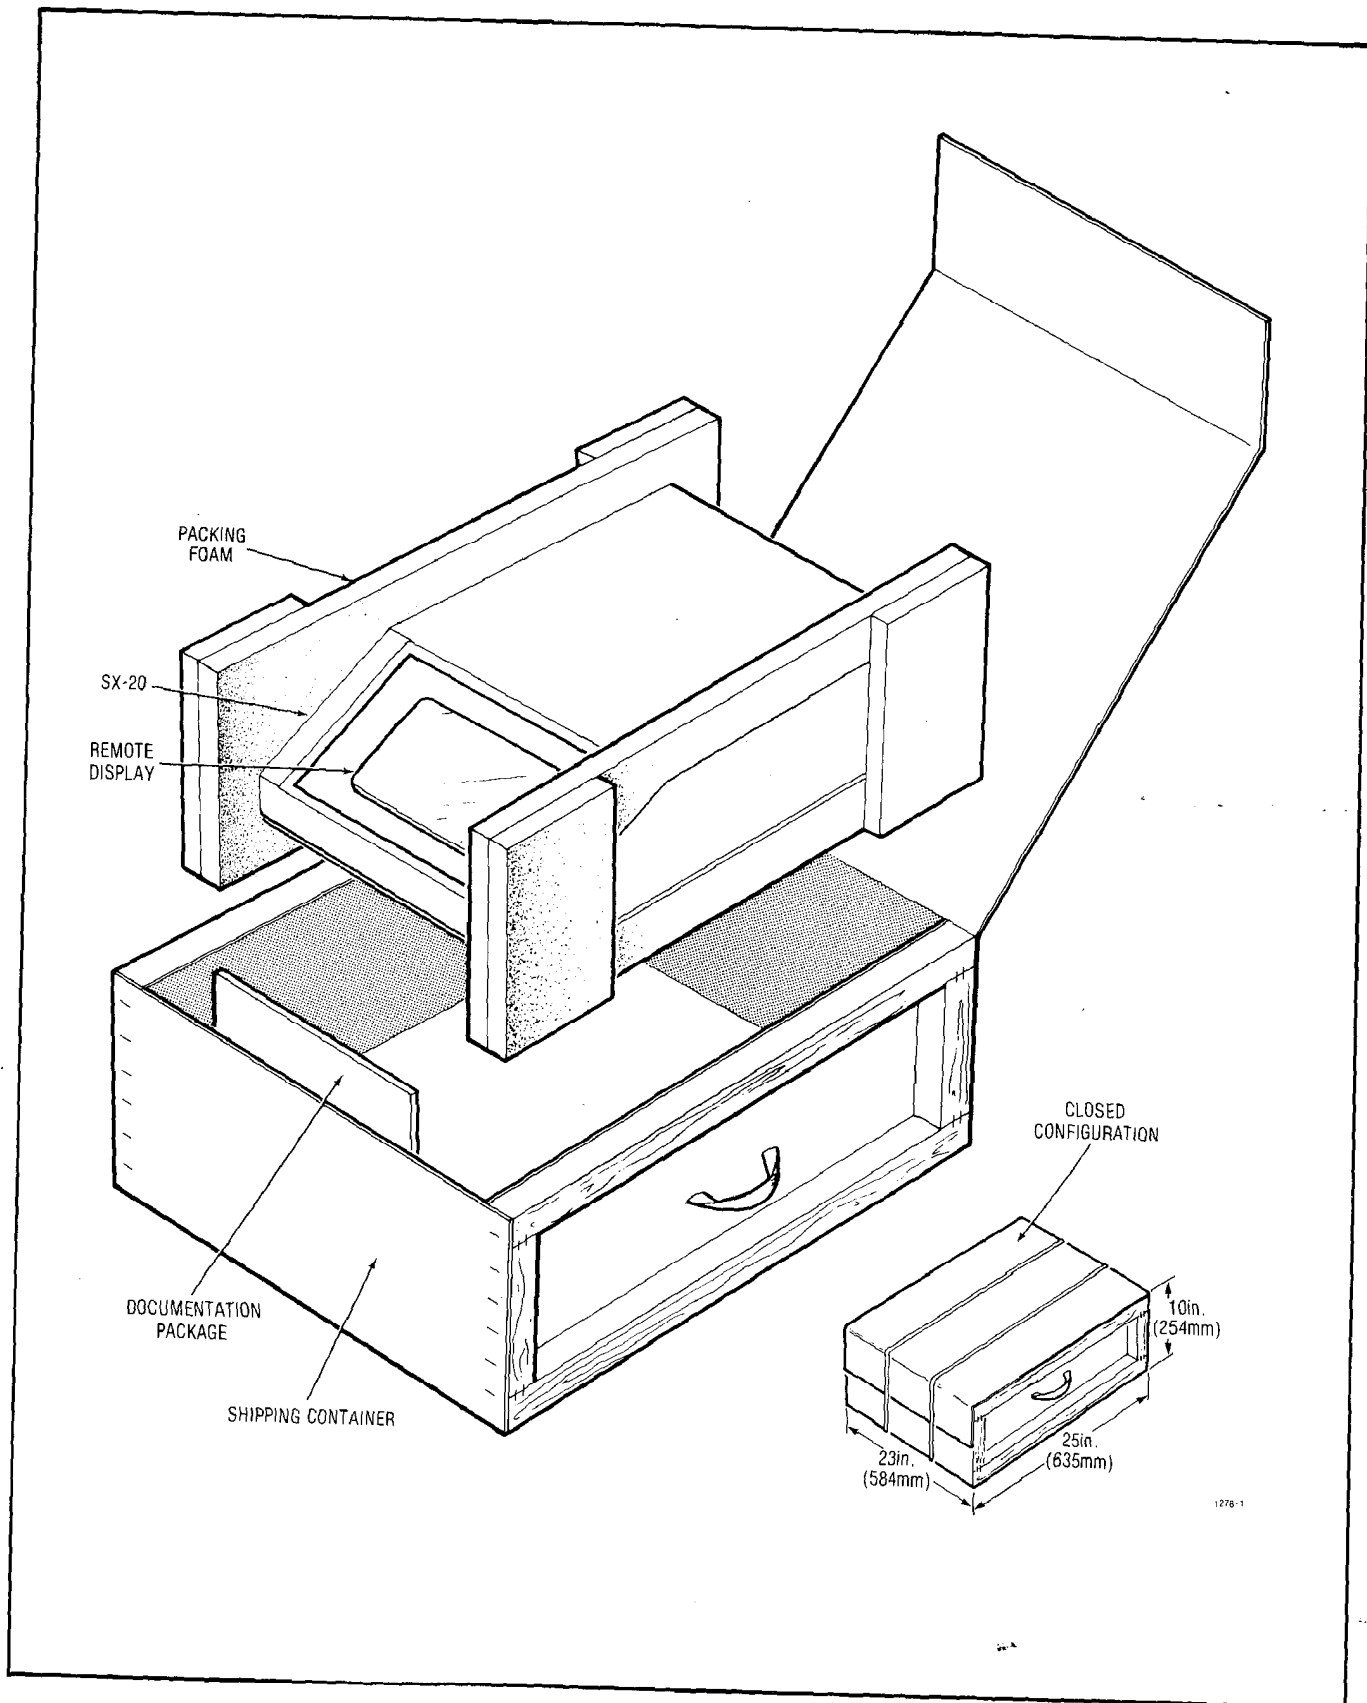

Fig. 3-1 System Packaging
**3.01** The SX-20 is shipped in a single carton (Fig. 3-1) containing the fully equipped equipment cabinet. If a large number of systems are to be shipped to one location, ten SX-20 shipping cartons are packaged on a single shipping pallet.
**3.02** The equipment cabinet is shipped with all printed circuit cards in position. The cabinet is enclosed in a polyethylene sheet and held in position within the shipping container by two preformed shock absorbant supports as shown in Fig. 3-1. The system documentation and mounting template are packaged in the same container as the equipment cabinet. The shipping container consists of a completely enclosed tri-wall carton supported along two sides by wooden frames for maximum rigidity. During transportation the carton is held closed by two nylon shipping straps. The total weight of a complete system including packaging is approximately 42lbs (18.5kg).
4.07 When the SX-20 equipment is shipped from one location to another, all items must be packaged to prevent damage. Fig. 3-1, 3-2 and 3-3 show how the equipment was originally packaged. This method of packaging should be followed as closely as possible.